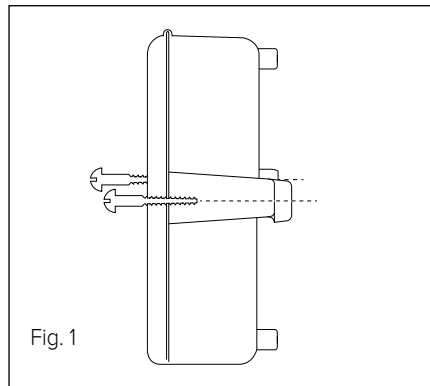

Fig. 1
- Mount the outdoors sensor to the wall (only after having completed the association procedure) using the screws and plugs included in the kit (Fig.1).